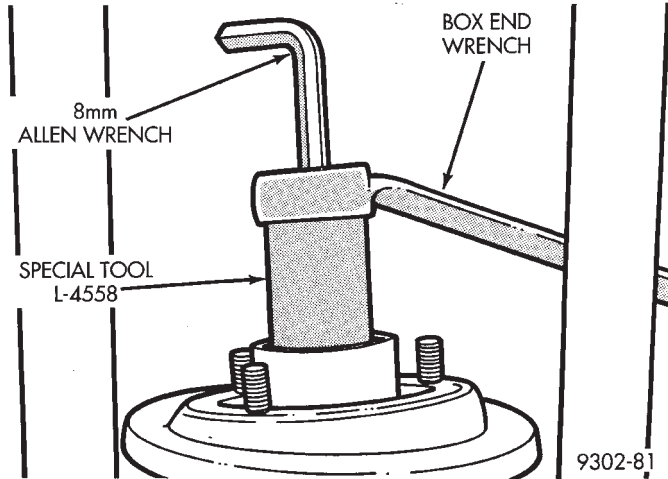

Fig. 40 Removing Strut Shaft Nut
(4) Install Strut Rod Socket, Special Tool, L-4558 on strut shaft nut (Fig. 40). Use a 8 mm allen wrench inserted into end of strut shaft to keep strut shaft from turning (Fig. 40). Remove the nut from the strut shaft.